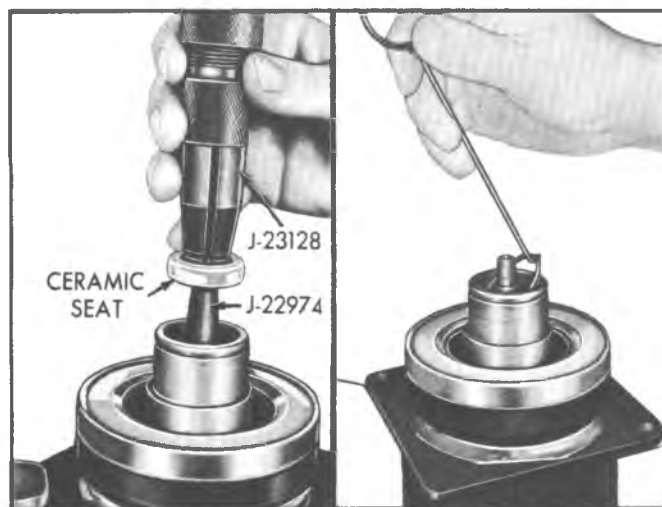

Fig. 11--Removing Seal Seat and "O" Ring
4. Place Tool J-22974 over the end of the shaft to prevent chipping the ceramic seat. Fully engage the knurled tangs of Tool J-23128 into the recessed portion of the seal seat by turning the handle clockwise. Lift the seat from the compressor with a rotary motion (fig. 11).
6. Remove the seal seat "O" ring from the compressor neck using Tool J-9553 (fig. 11).